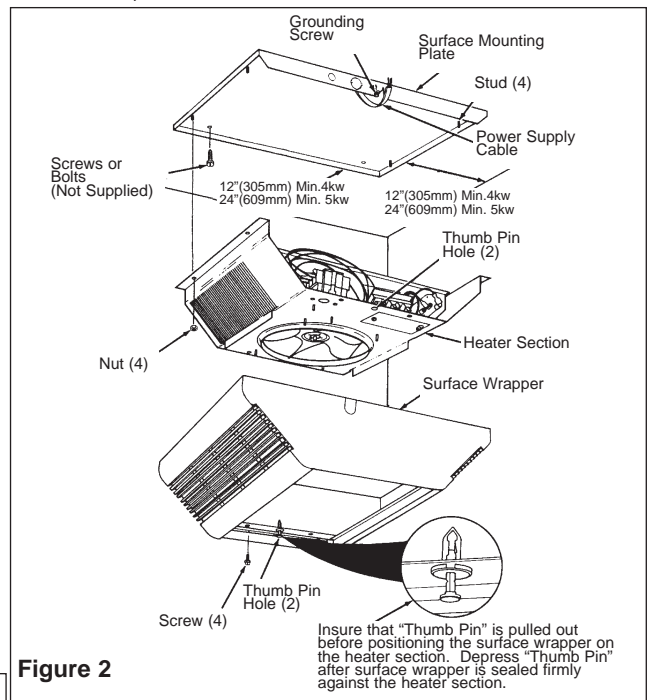

Figure 2
FAILURE TO INSTALL THE FOUR MOUNTING NUTS COULD RESULT IN THE HEATER FALLING. (SEE FIG. 2)
FAILURE TO INSTALL THE FOUR SCREWS, COULD ALLOW THE SURFACE WRAPPER TO FALL. (SEE FIG. 2)
6. Position the surface mounting plate against the ceiling and secure with bolts or screws (Figure 2). See Warning No. 9. Connect the ground wire to the green ground screw on the surface mounting plate.
10. Position the heater section over the studs on the surface mounting plate (Figure 2).
11. Push the heater section onto the studs and securely tighten four nuts (supplied) on the studs to secure the heater section to the surface mounting plate (Figure 2).
- NOTE:** Insure that the "thumb pin" in each end of the discharge grille opening is pulled outward to allow the body of the thumb pins to fit into the holes in the heater section. (Figure 2).
15. Install and securely tighten four screws (supplied) to secure the surface wrapper to the heater section (Figure 2).
**FAILURE TO INSTALL THE FOUR MOUNTING NUTS COULD RESULT IN THE HEATER FALLING. (SEE FIG. 2)**